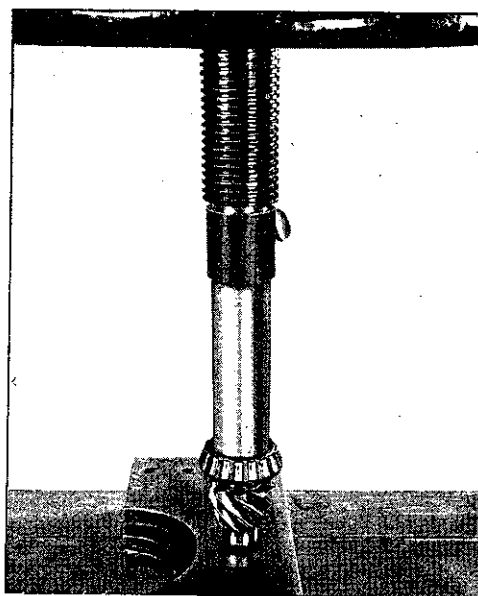

FIG. 289—PINION REAR BEARING INSTALLING SLEEVE
- c. Press rear pinion shaft bearing firmly against pinion shoulder. Use Tool No. W-205, Fig. 289.